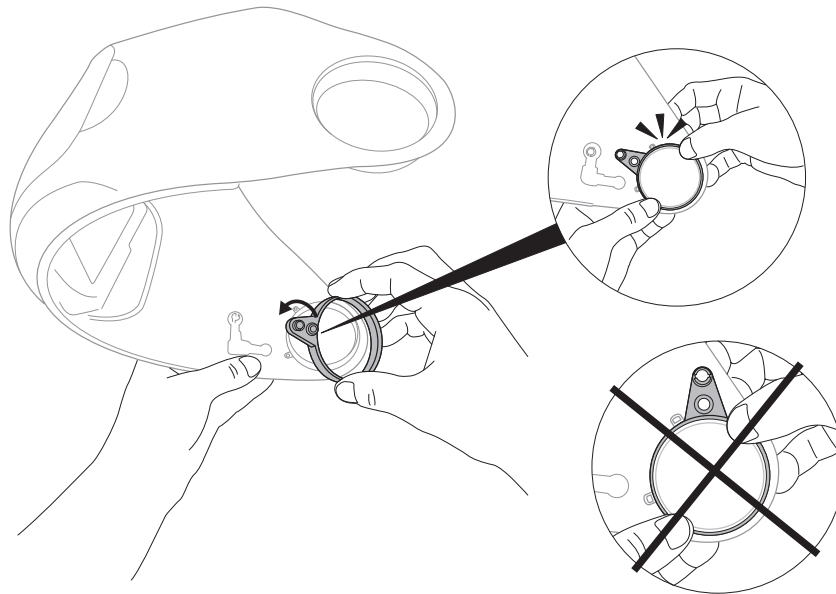

Fig. 16b
- c. To install the new pivot ring and hinge, position the pivot ring with small pivot post facing toward the ADF. There are two small stops for the pivot ring – the post goes between these stops. Press the pivot ring over its large circular post, pressing firmly until it “snaps” into place (Fig. 16b). If installed correctly the pivot ring will pivot freely up and down about 60-degrees.